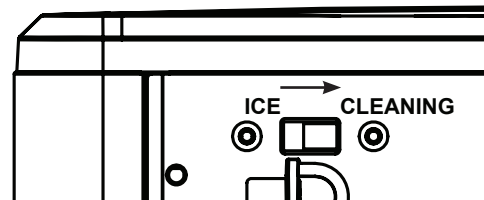

Figure 2
4. Plug in Opal and slide the rear switch to the **"CLEANING"** position. See figure 2.